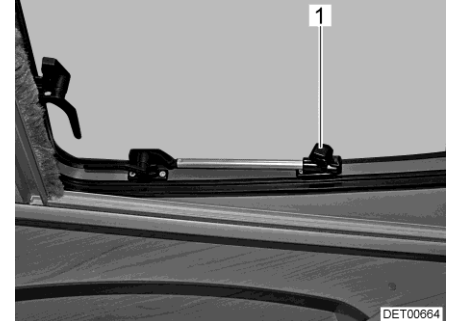

Fig. 57 Roof window with rotary hinges, open
- Open the roof window until the required position has been reached and use knurled knob (Fig. 57,1) to secure in position.
- Turn knurled knob (Fig. 57,1) until the latch is released.